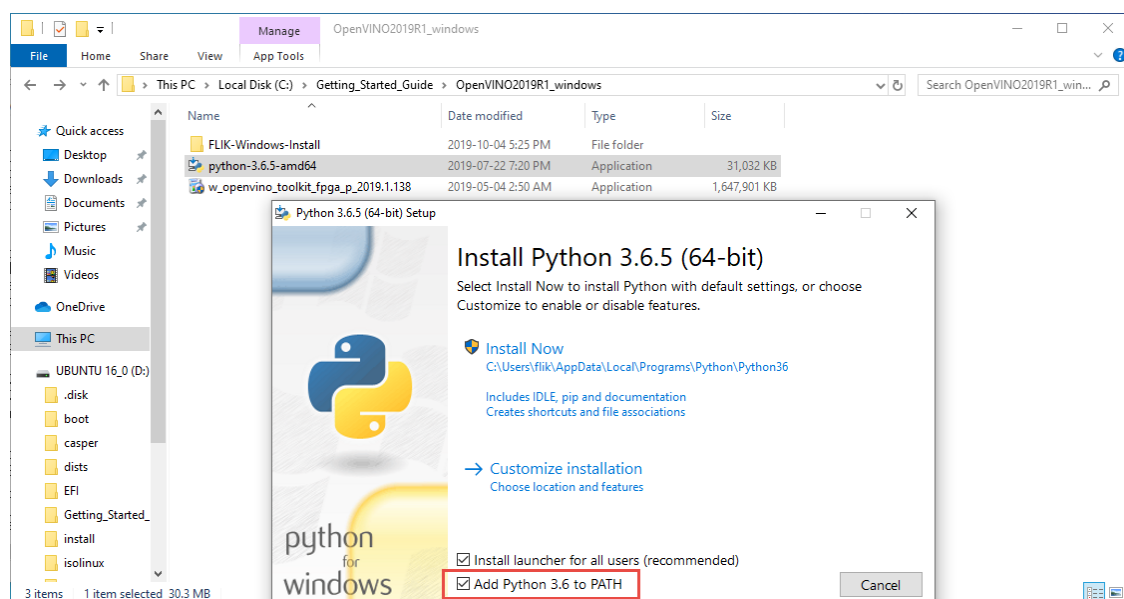

Figure 3-17 Install the Python 3.6
2. Execute “python-3.6.5-amd64.exe”. Remember to check “Add Python 3.6 to PATH” as shown in Figure 3-17.